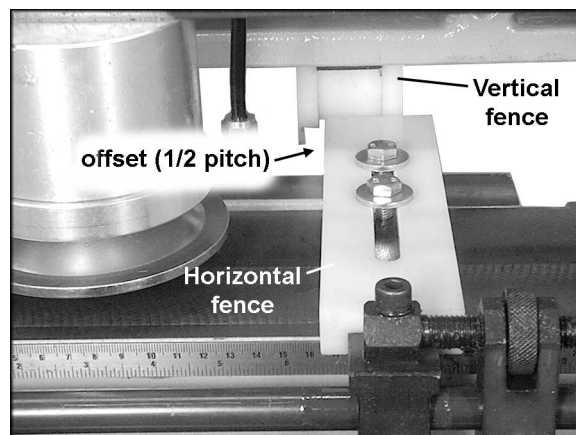

Figure 22
9. Line up the vertical fence with the horizontal fence, then offset the vertical fence by exactly half the pitch of the template bar. See Figure 22.
The polyethylene buffer pads, shown in Figure 22, have slots through which they are secured to the fences by screws. These buffer pads can be re-positioned if needed.
To adjust a buffer pad, loosen the two hex cap screws (shown in Figure 22) with a 13mm wrench. Slide the buffer pad as necessary. Re-tighten both hex cap screws when finished.